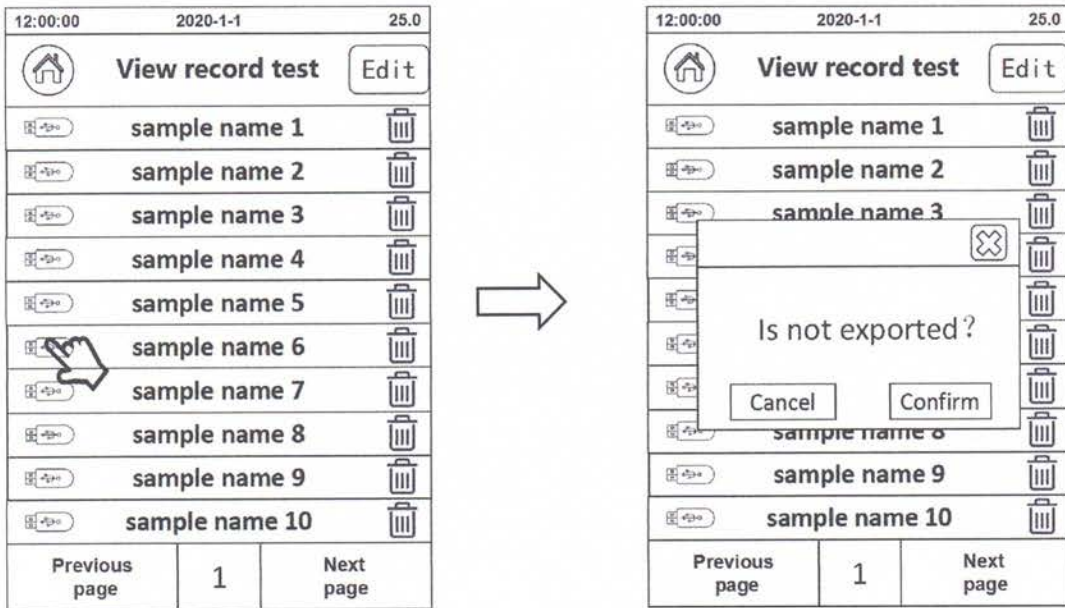

Fig. 26
6.4、Click the  icon to delete the selected test data, and click the  icon to export the data to a USB flash drive. See Fig.26 for details.